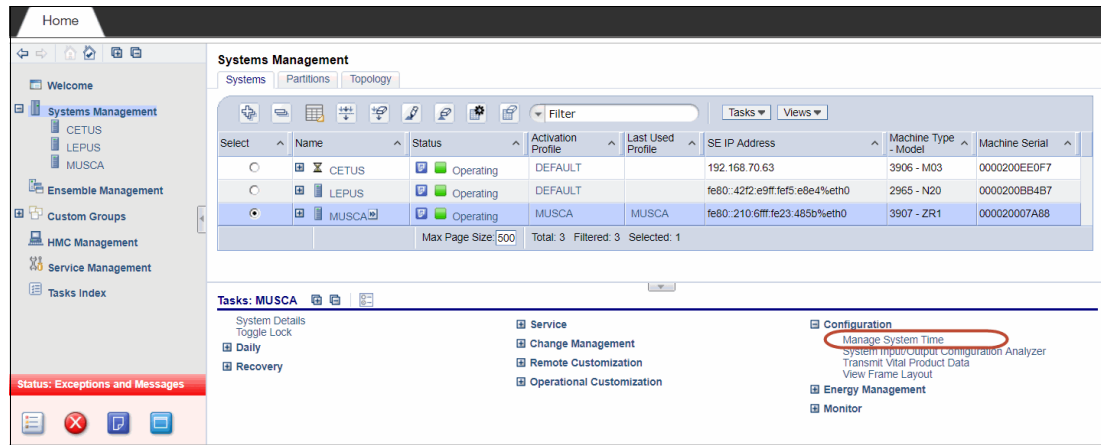

Figure 8-32 Manage System Time CPC selection
1. In the HMC, select the CPC to configure STP and **Manage System Time** under the Configuration task (see Figure 8-32).